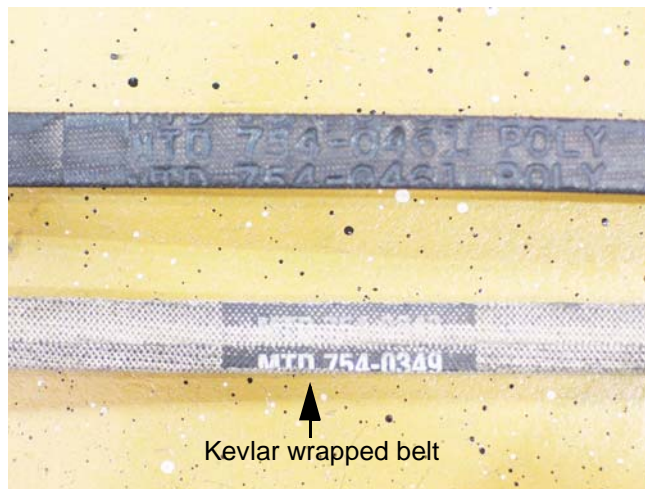

Figure 23.10
- 23.10. The belt for the G.T. models of the 1500 Series line is Kevlar wrapped. Substituting the poly-wrapped belt used on the L.T. models is not recommended, but the Kevlar belt is an acceptable premium upgrade for the L.T. tractors. See Figure 23.10.